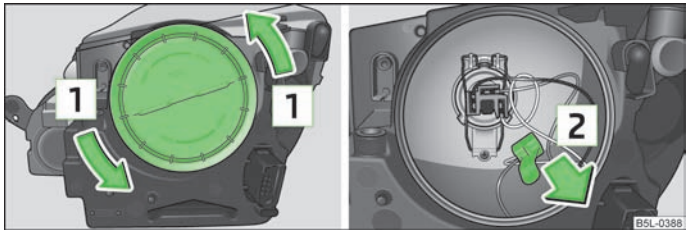

Fig. 170 Removing the bulb arrangement/fixture for the parking light (Halogen headlight)
- Turn the rubber cover in the direction of arrow **1** **OPEN** » Fig. 170 and remove.
- Remove the fixture in the direction of arrow **2** » Fig. 170.